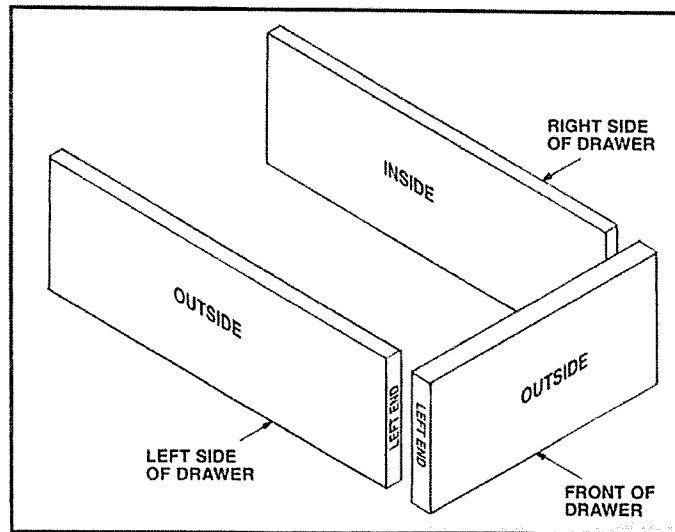

Fig. 10
1. Arrange the drawer front and side pieces as shown in Fig. 10.
2. Mark the "outside", "inside" and ends of each piece as shown in Fig. 10.